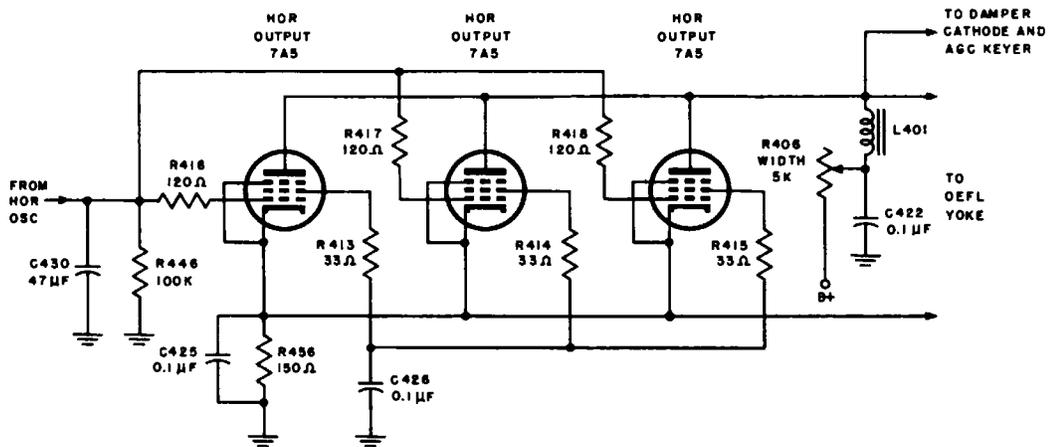

Fig. 7-19. Schematic of horizontal-output circuit. After Westinghouse Electric Co.
QUES. 7-19. Instead of a full raster, a thin vertical line is observed on the picture tube. The horizontal deflection tubes are checked and found to be good. In the receiver illustrated in Fig. 7-19, what is the probable cause of trouble?
ANS. In the receiver of Fig. 7-19, lack of horizontal deflection is probably caused by a defective yoke. Check the yoke and replace, if necessary.
**DISCUSSION.** In the receiver of Fig. 7-19, high voltage is produced by an r-f high-voltage power supply. In a receiver of this type, the high voltage and the horizontal sweep are totally unrelated to each other (see the answer to *QUES. 3-1*), so that high voltage can be present despite the lack of horizontal deflection voltage.